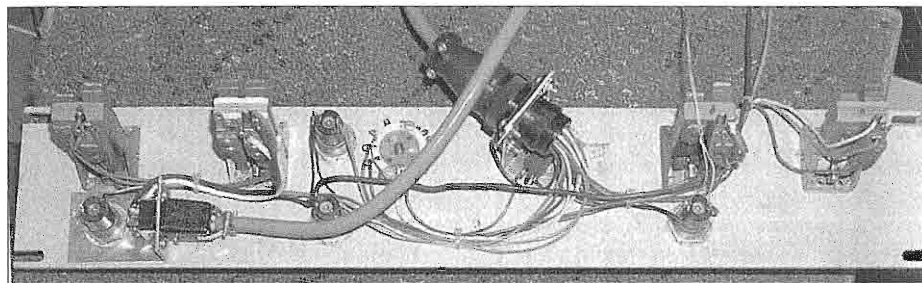

Figure 3: Rear view of the completed remote panel showing the key switches, pilot lights, connectors, and the wiring.
**Figure 2** shows the homebrew transmitter relay panel installed in the transmitter. A multiconductor cable using Amp® Type CPC, series 1, 16-pin plastic circular connectors was used for the low voltage interconnect. A standard 4-pin Cinch-Jones rectangular connector handles the 120-VAC circuits. The relays are surplus Potter and Brumfield plug-in style 24-VDC and 110-VAC miniature 4-pole, double-throw units. Since all the front panel key switches operate as momentary and the remote control interface expects similar momentary commands, I used some extra key switches like on the BTA-1R1 front panel for the remote unit. I had to make my own bat handle knobs and I did this by turning hard wood dowels on the lathe and dipping them in the rubber compound used to coat tool handles and usually available in auto parts stores. One switch had the handle broken off, so a new one was fabricated from a 10-32 brass screw and soft soldered to the switchbody. So far it has held up, but it really should be brazed. The finished handles are hard to tell from the originals. **Figure 3** shows the rear of the remote panel and the Amp® and Cinch-Jones connectors.